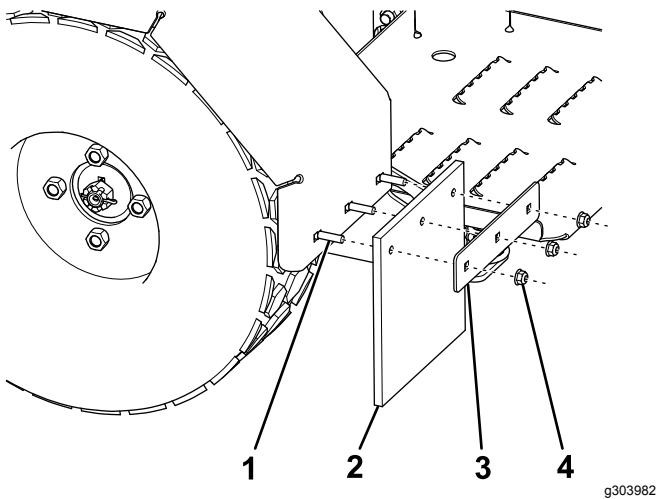

Figure 1
4. Secure the flap to the machine using 3 bolts, a retainer plate, and 3 nuts (Figure 1).